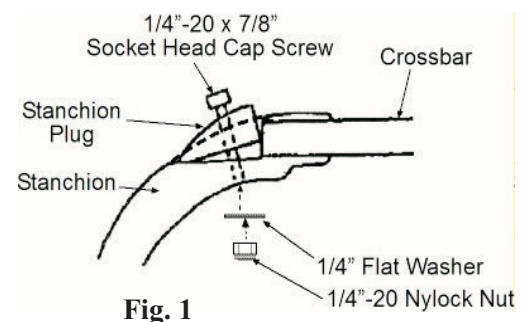

Fig. 1
1. Install stanchion plugs into two stanchions using 1/4"-20 x 7/8" cap screws, 1/4" flat washers and nylock nuts as shown in Fig. 1.
2. Slide one "plugged" stanchion on to end of each crossbar, butting end of bar firmly against stanchion plug. While insuring bar remains butted against plug, drill 3/16" hole in bottom of crossbar thru remaining hole on underside of stanchion neck. Install Drive Rivet in drilled hole as shown in Fig. 1, tapping rivet mandrel pin firmly with hammer until flush with rivet head.
10. Remove "open" stanchions from crossbars, and square cut the crossbars where marked in Step 8. Install stanchion plugs into two "open" stanchions using 1/4"-20 x 7/8" cap screws, 1/4" flat washers and nylock nuts as shown in Fig. 1 above.
11. Slide one stanchion on to end of each crossbar, butting end of bar firmly against stanchion plug. While insuring bar remains butted against plug, drill 3/16" hole in bottom of crossbar thru remaining hole on underside of stanchion neck. Install Drive Rivet in drilled hole as shown in Fig. 1, tapping rivet mandrel pin firmly with hammer until flush with rivet head.